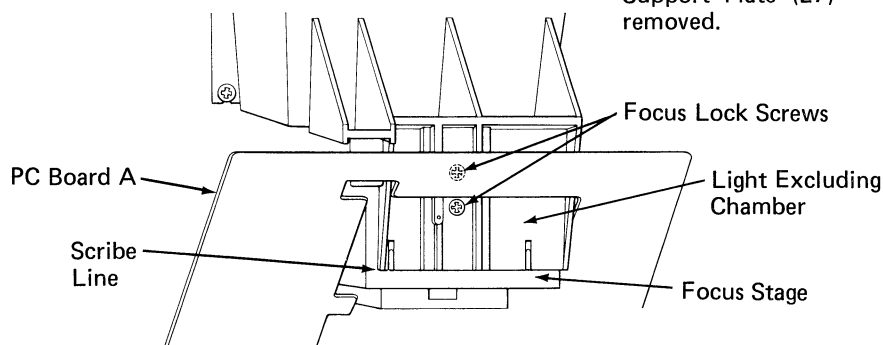

Figure 3-3. Location of Focusing Reference Line
Scribe a reference line on the focus stage (5) where it comes in contact with the light excluding chamber, Figure 3.3. This will allow the focus stage to be returned to the established focus position. If the focus stage or lens assembly is replaced, it will be necessary to refocus the printer. This should be performed by a Vivitar repair facility.